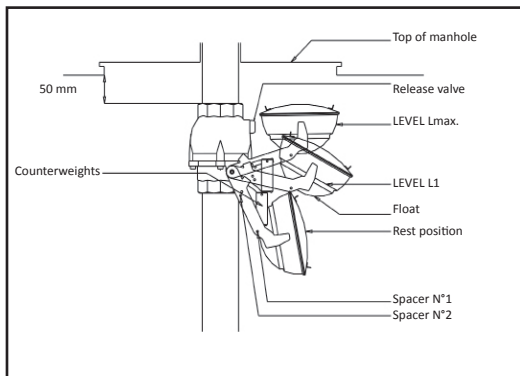

Figure 2
- 2 : Mount the overflow prevention device on the pipe sleeve under the manhole plate, placing the float under the tester. The 50mm minimum distance between the top of the overflow prevention device and the tank generator must be respected in all circumstances. (Figure 2)